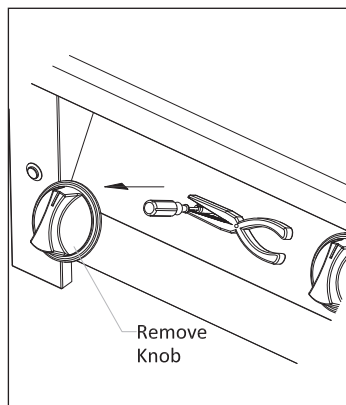

Figure 12
- While holding the valve shaft with pliers, insert a small screwdriver into the shaft and, while watching the flame, adjust it to a minimum stable setting. (Figure 12)